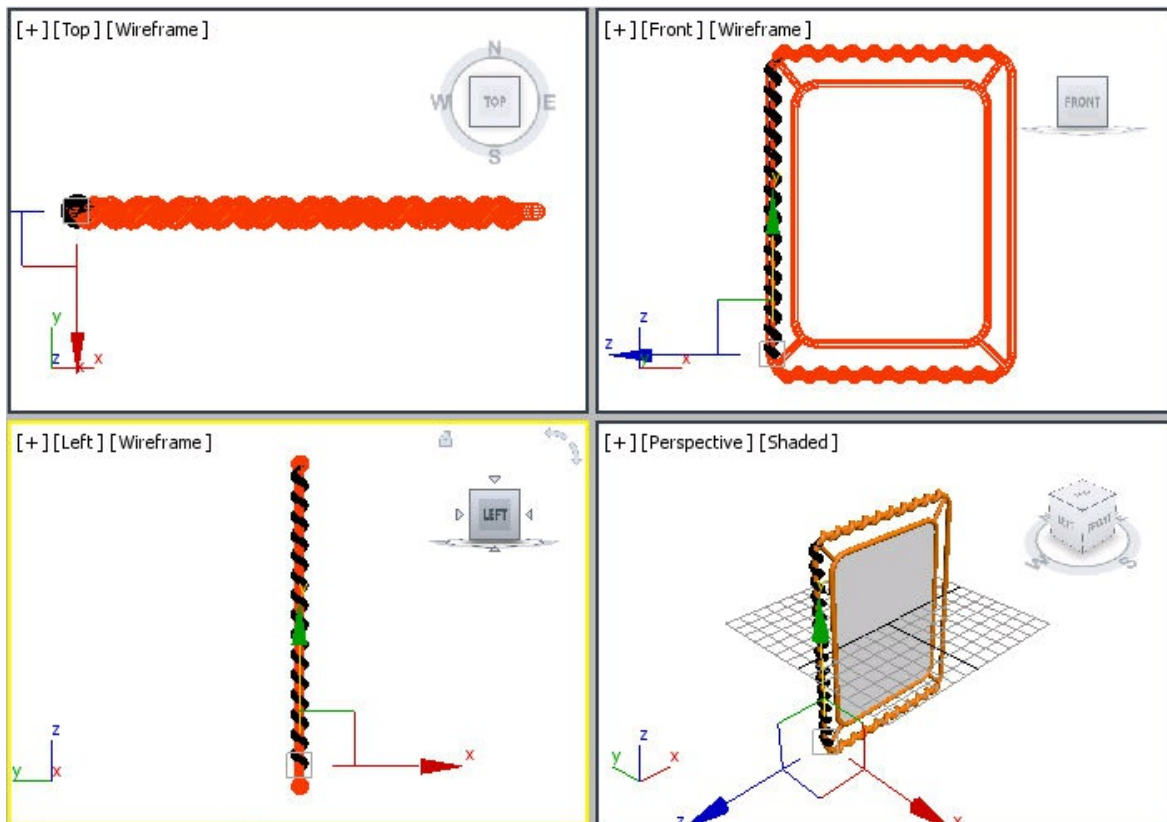
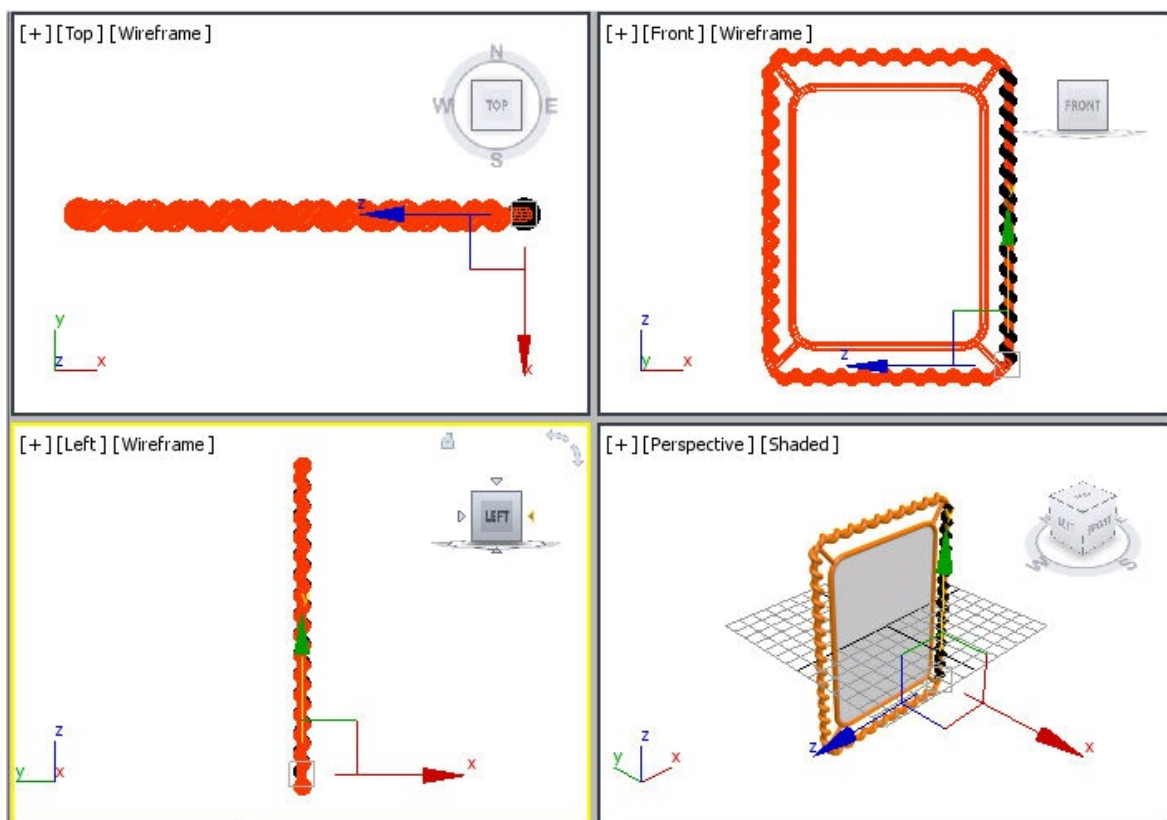

Figure 5-65 The design3 geometry aligned in the viewports
Figure 5-66 *The copy of design3 geometry aligned in the viewports*
12. In the **Name and Color** rollout, enter the name **design3**. Assign the same color to it that you assigned to *inner frame* and align *design3* in the viewports, as shown in Figure 5-65. Similarly, create a copy of *design3* and align it, as shown in Figure 5-66.